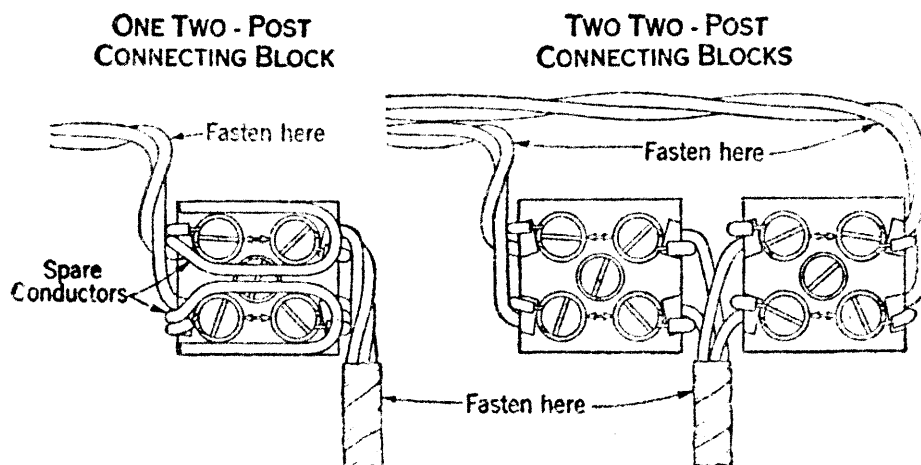

Fig. 2.
2.06 Where a two-post connecting block is installed, dress spare conductors as shown in the following typical illustration, Fig. 2. This also applies where a three-post connecting block is installed. The amount of slack left will be sufficient for terminating the conductors in the event of trouble or growth.